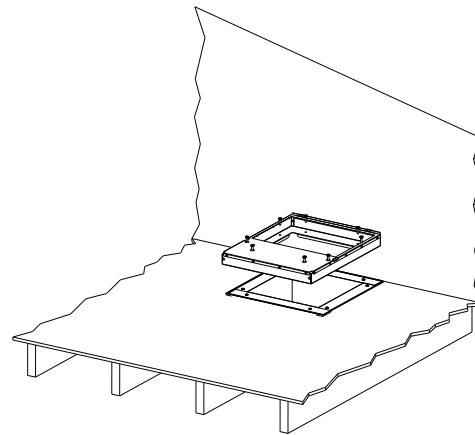

Fig. 3 – Floor Base
- 3 Apply a bead of UL 181 rated caulk or approved duct mastic around the perimeter of the plenum, and then install the floor base supplied with the unit over the plenum. Attach with four 1" length (min) wood screws through the plenum and into the floor. See Fig 3.
- 4 Place the Floor Base supplied with the unit over the plenum and attach with 1" length (min) screws, through plenum and into floor. See Fig 3.